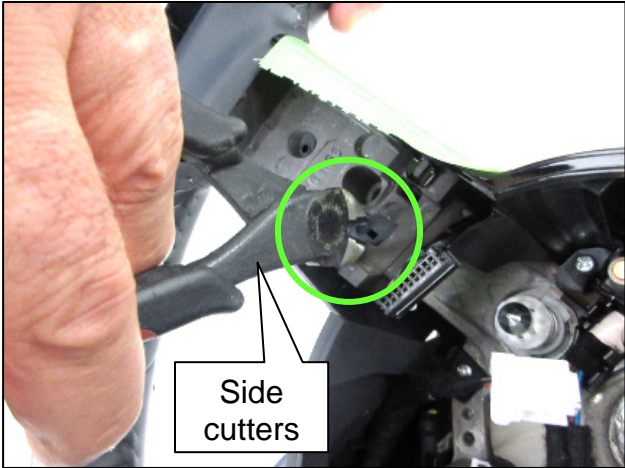
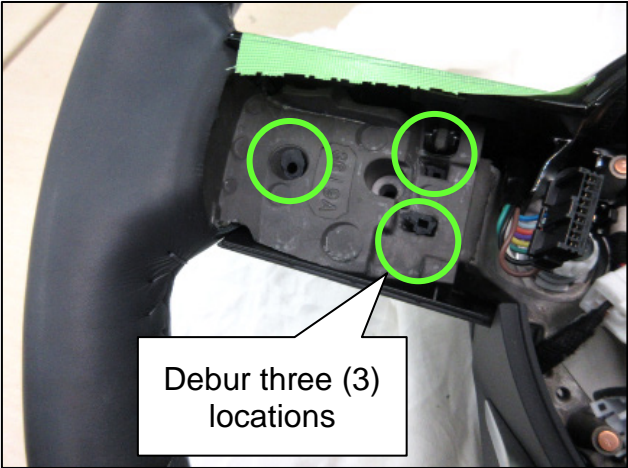

Figure 10
Figure 11
10. From the front side of the steering wheel, remove the plastic burrs from the steering wheel switch pins with a pair of Side cutters at three (3) locations, as shown in Figure 10 and Figure 11. Repeat this step for the opposite side switch.